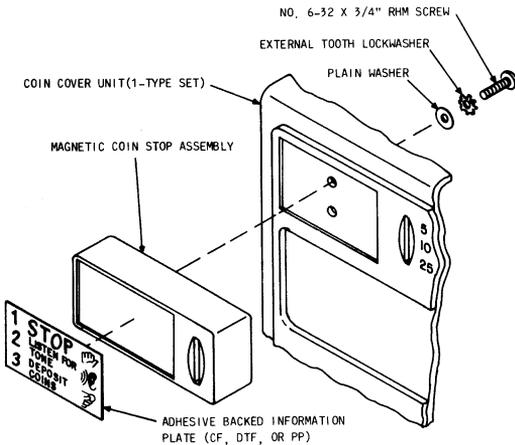

Fig. 56—Installation of the D-180848 Kit of Parts (Magnetic Coin Stop)
- (1) Remove the 70A or 71A-type coin cover unit.
- (2) Remove the existing information plate.
- (3) Thoroughly clean the surface from where the information plate was removed and around the coin slot using an approved cleaner.
- (4) Install the magnetic coin stop assembly over the coin slot and secure it with the two No. 6-32 by 3/4 RHM screws, two No. 6 lockwashers, and two No. 6 flat washers furnished with kit (Fig. 56).
- (5) Clean the front surface of the stop assembly with a dry cloth.
- (6) Observe the information plate removed in (2) and select one from the kit containing the same information.
- (7) Peel off the protective covering from rear and press the information plate in place (Fig. 56). Apply firm pressure to ensure complete adhesion.
- (8) The information plate assemblies (25 plates per package) can be ordered separately as follows.